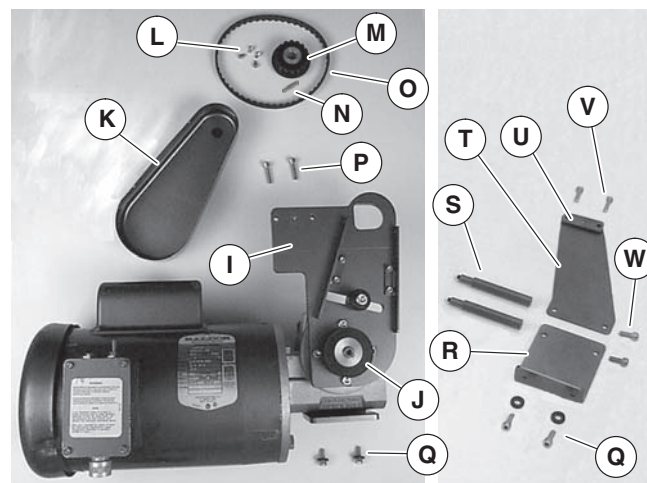

Figure 2
1. Typical components (Figure 2)
<p>2100, 2200, MPB and 6200 2" & 3" (51mm & 76mm) and 4100 1" through 6" (25mm – 152mm) conveyors do not include (Figure 2, item R through W).</p>